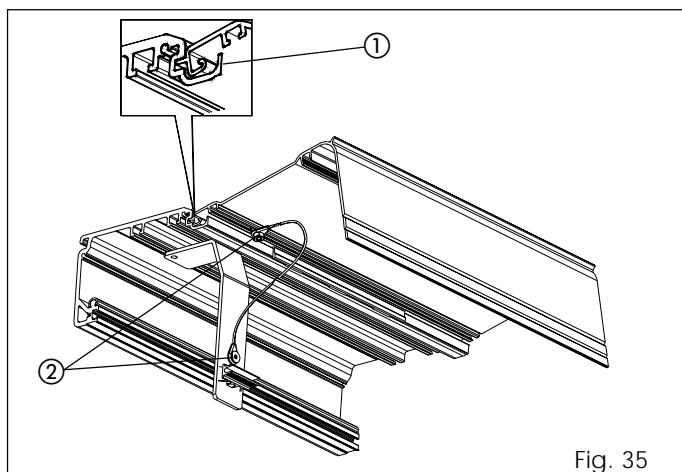

Fig. 35
- To keep the housing open, lift it and push it toward the profile until the metal projection fits into the profile seat (fig. 35 ref. ①).
- Fasten the 'parachute' cables on the housing and on the housing fixing brackets as shown in fig. 35 ref. ②.